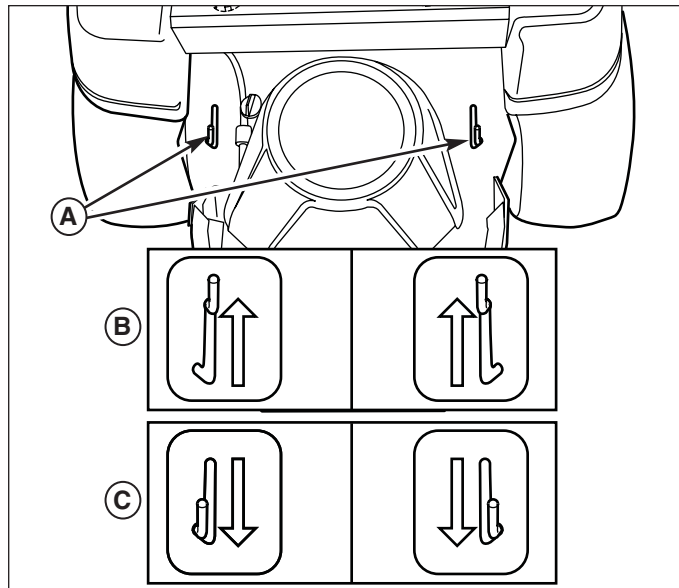

Figure 1. Transmission Release Levers
4. Pull both transmission release levers (A, Figure 1) back and out so that they lock in the disengaged (free-wheel) position (C).
6. Engage the transmissions by pulling the hydraulic release levers rearward and inward to release them from the disengaged position and allow them to move forward to the engaged (drive) position (B).